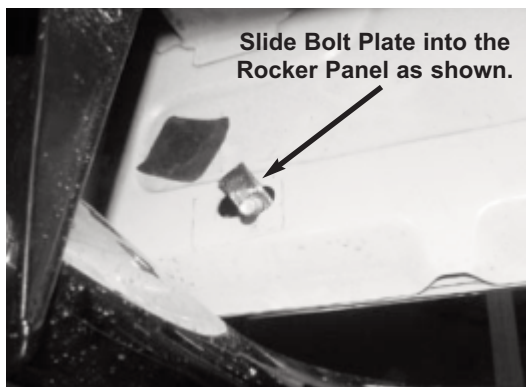

Figure 3 - Rear Bolt Plate
Attach the front support straps by installing the bolt plate into the rocker panel using (1) 3/8" flat washer/lock washer and 3/8" hex nut. Attach the other end of the support strap to the front brackets using the (1) 3/8" x 1 1/2" bolt, (2) 3/8" flat washer, (1) lock washer and (1) 3/8" hex nut. (See Figure 3, 5)
7. Attach the step bars to the front and rear brackets using (1) 1/2" - 13 x 2" bolt, (1) 1/2" flat washer/lock washer per bracket, and hand tighten. Torque M12 bolts first to 65 ft/lbs. and then tighten all remaining fasteners.